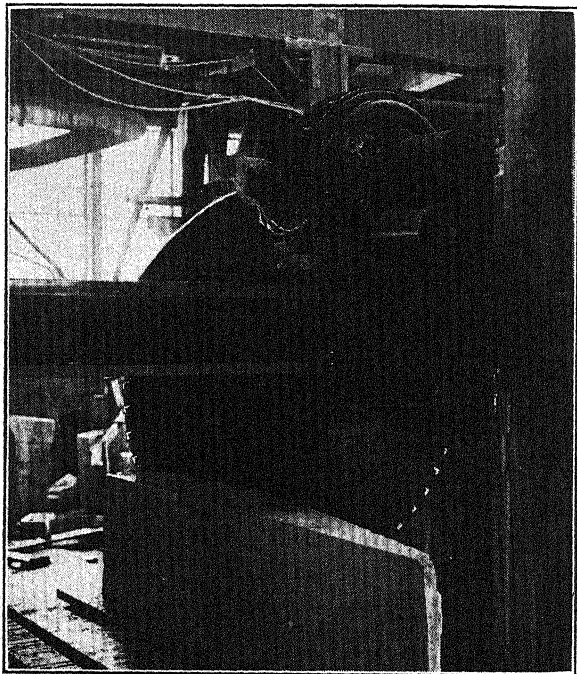

FIG. 137. — A saw fitted with diamond teeth for sawing marble.
**221. Uses of the Diamond.** The use of the diamond as a gem is known to all. The carat is the unit weight used. It equals 200 milligrams. But its great hardness makes it useful for several other purposes. Figure 137 shows a saw fitted